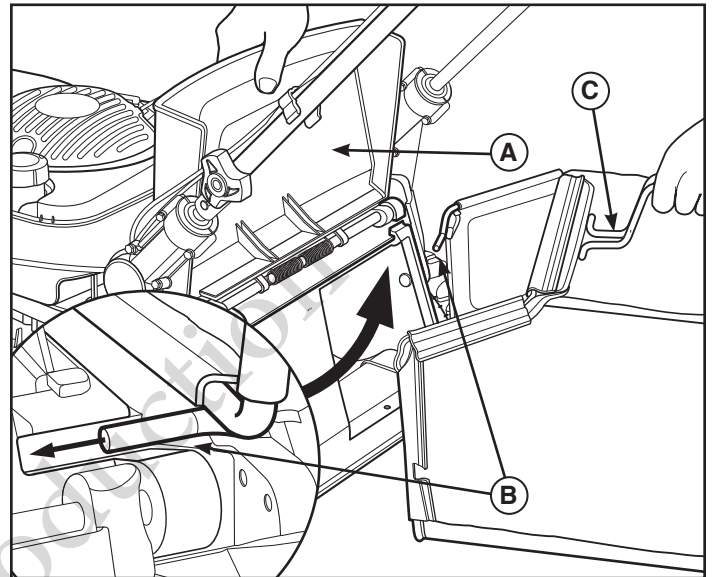

Figure 9
2. To install the grass catcher, raise the door (A, Figure 9) on the rear of the mower housing.
3. Fit the hooks (B) on each side of the grass catcher frame into the slots in the door.